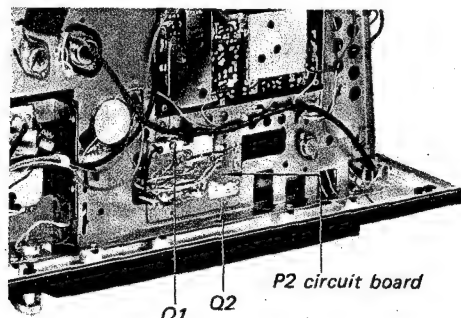

Fig. 2-22.
1. Remove the two screws labeled Q1~2 in Fig. 2-22.